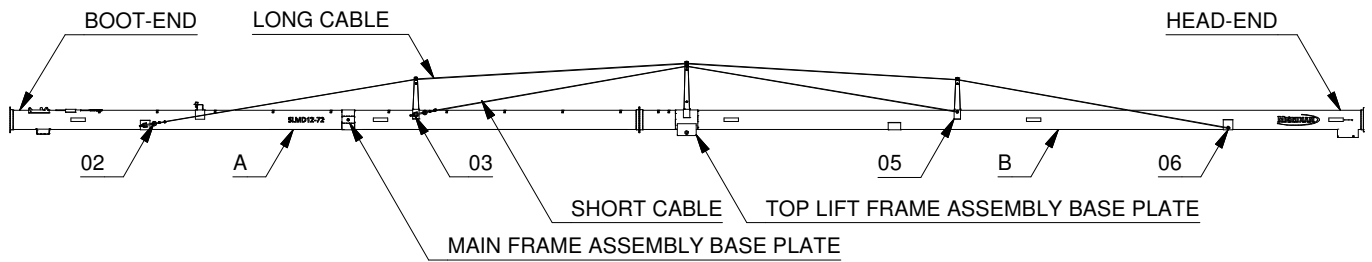
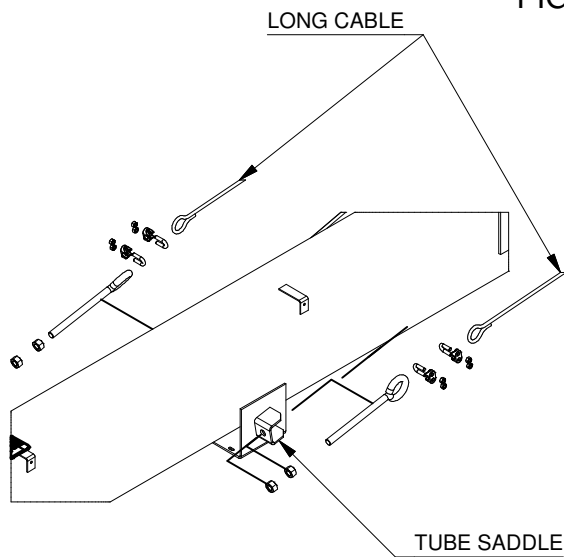
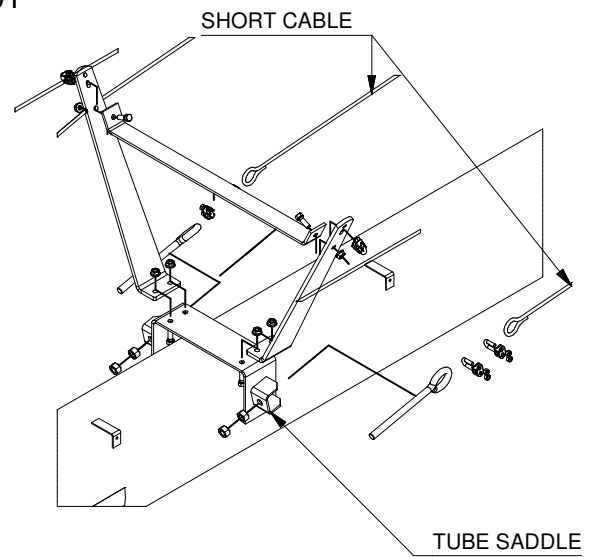
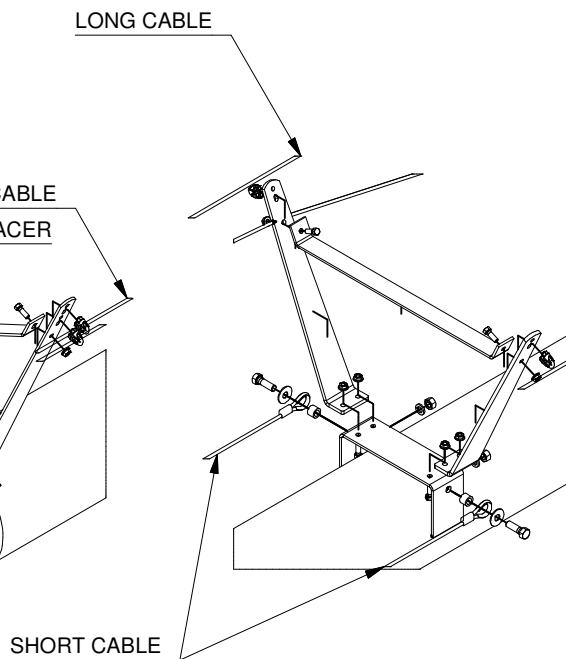

FIGURE 01
FIGURE 02
FIGURE 03
FIGURE 05
1. Connect tube assembly **A** to tube assembly **B** as shown in **(FIGURE 01)**, ensure proper alignment of flight assemblies. Note: For the **SLMD12-79** and **SLMD12-85**, there are three tube assemblies to connect.
3. Assemble truss risers **(FIGURES 03, 04 and 05)** in the order indicated **(FIGURE 01)**
5. Install **SHORT CABLE** spanning from **(FIGURE 03 to 05)**. See **(FIGURE 01)**. Fasten to **(FIGURE 05)** first using $\frac{5}{8}$ " dia. bolt, flat washer and bushing. Tighten.
7. In **(FIGURE 03)** partially thread one of the two nuts to eyebolt while attaching eyebolt to **TUBE SADDLE**.
8. Thread **SHORT CABLE** through eyebolt and pull tight. Attach two $\frac{5}{16}$ " cable clamps as shown in **(FIGURE 03)**
12. Install **LONG CABLE** spanning from **(FIGURE 02 to 06)**. See **(FIGURE 01)**. Fasten to **(FIGURE 06)** first using $\frac{5}{8}$ " dia. bolt, flat washer and bushing. Tighten.
13. Fasten **LONG CABLE** to top two holes in **(FIGURE 03, 04 and 05)** using $\frac{3}{8}$ " cable clamp and nuts. Leave loose.
14. In **(FIGURE 02)** partially thread one of two nuts to eyebolt while attaching eyebolt to **TUBE SADDLE**.
15. Thread **LONG CABLE** through eyebolt and pull tight. Attached two $\frac{5}{16}$ " cable clamps as shown in **(FIGURE 02)**.